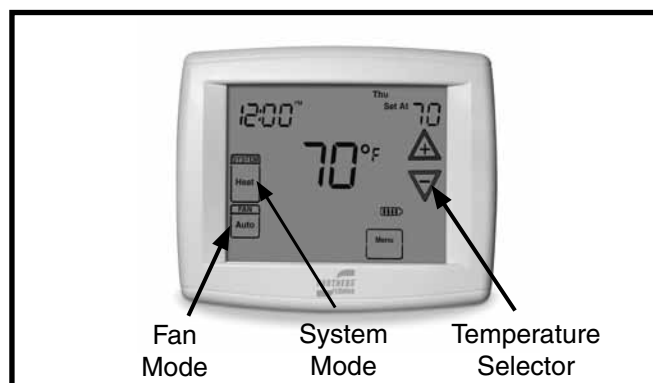

Figure 1. Digital Thermostat
1. Set the thermostat system mode to COOL and the thermostat fan mode to AUTO. See Figure 1.
1. Set the thermostat system mode to Heat and the thermostat fan mode to AUTO. See Figure 1.
Set the thermostat fan mode to ON (or CONT on some thermostat models). See Figure 1.
Set the thermostat system mode to OFF and the thermostat fan mode to AUTO. See Figure 1. **NOTE:** The system will not operate, regardless of the thermostat temperature selector's setting.